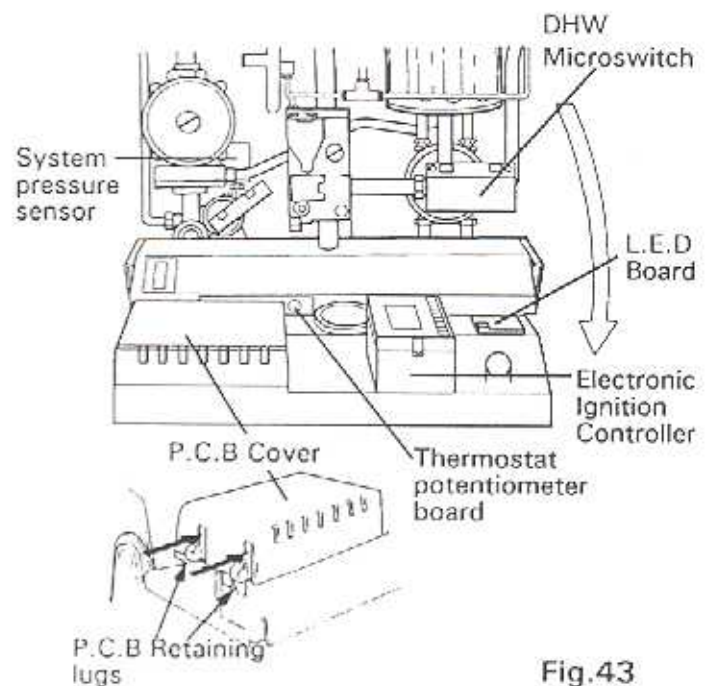

Fig.43
Refer to fig.43
Refer to Fig.43
- 8.23.43 Press in the sides of the printed circuit board cover (fig.43) to release retaining clips and lift cover off.